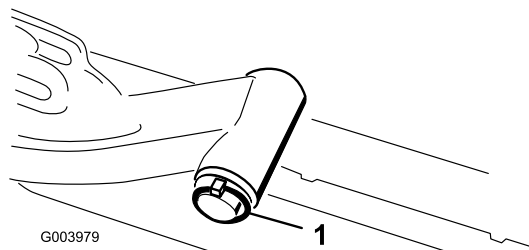

Figure 11
- A. Remove the lynch pin and washer securing the lift arm pivot shaft to the lift arm and slide the lift arm pivot shaft out of the lift arm (Figure 11).
- C. Insert the lift arm shaft into the lift arm and secure it with the washer and lynch pin (Figure 11).